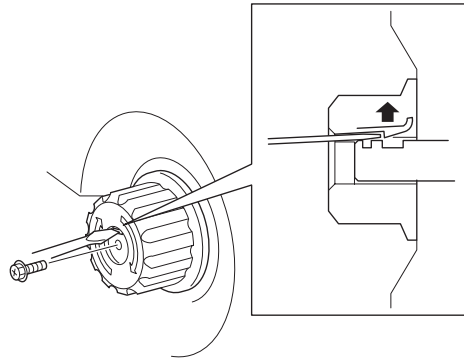

Figure 1
6. Release the Knob latch by inserting a screwdriver blade through the slot in the front of the Knob and pull the off of the Shaft (Figure 1).